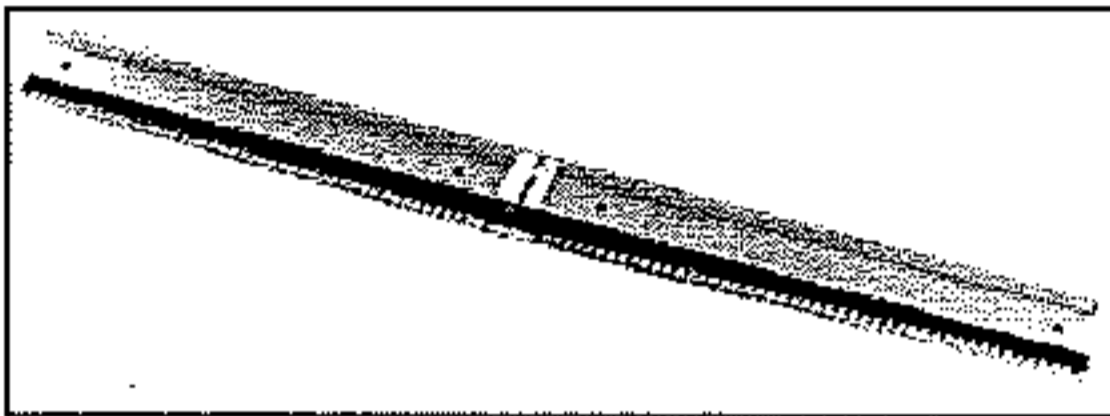

Fig 2
2. Place the “L” shaped stiffener bar (B) over the 2 serrated blades (A) with the arrow pointing away from you (figure 2).